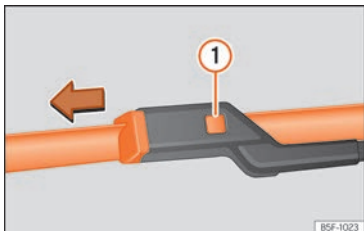

Fig. 84 Changing the windscreen wiper blades
- Press and hold release button »» **Fig. 84 ❶** and pull gently on the wiper blade in the direction of the arrow.